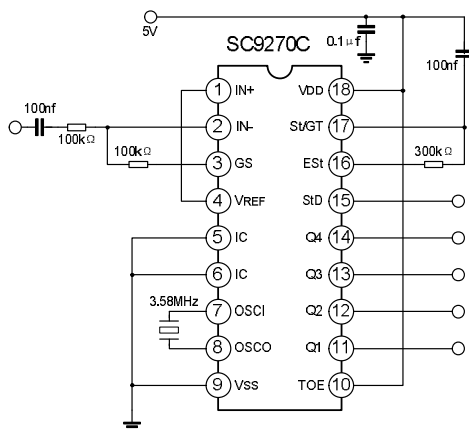

Figure 2. Single ended input configuration
(All voltage referenced to V_{SS} otherwise noted; V_{DD}=5.0V, V_{SS}=0V, T_A=25°C, f_{CLK}=3.579545 MHz, using test circuit of figure 2 & 3.)
Provision is made for connection of a feedback resistor to the op-amp output (GS) for adjustment of gain. In a single-ended configuration, the input pins are connected as shown in Fig.2 with the op-amp connected for unity gain and V_{REF} biasing the input at $1/2V_{DD}$.